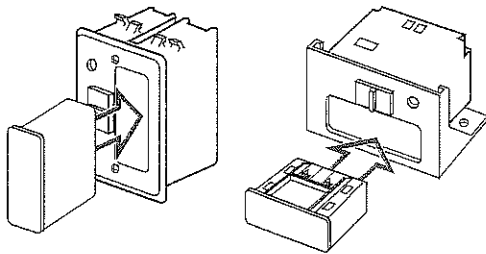

Figure 5
CODING INSTRUCTIONS: (see figure 5)
6. Slide the battery compartment into the Remote Receiver. See *Figure 5*.